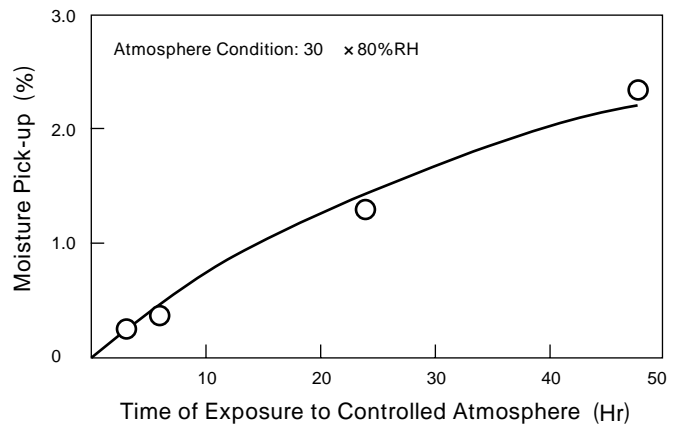

Fig.4 - The Relationship between Moisture Pick-Up and Time of Exposure to Controlled Atmosphere
- (1) Re-dry LB-52-18 at 300 - 350 for 30 - 60 minutes before use for every four-hour exposure to air without wetting unless otherwise specified. This is because the coating flux tends to pick up moisture in the air as shown in Fig. 4. Moisture can be a cause of spatters, porosity, irregular bead appearance and cold cracking. The moisture